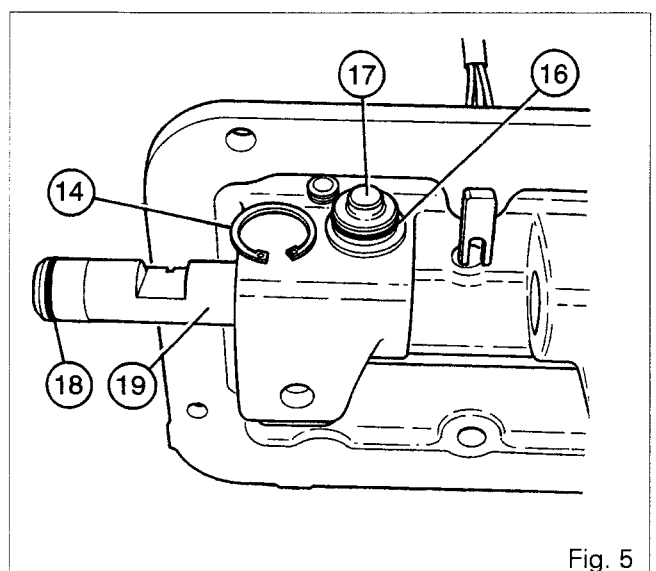

Fig. 5
30. Fit the lubricated seals (18) on the piston (19) and position it in the cover. Remove the plug (17) equipped with the O-ring (16). Position the circlip (14) (Fig. 5).
32. Coat the outside diameter of the seal (37) with Loctite 542 and fit it fully home in the shoulder.
33. Reinstall the cup (41) and the spring (42) on the finger (36). Assemble the finger with the rack (35).
34. Reinstall the spring (39) and the cups (38) and (40).
35. Refit the gearshift control assembly without damaging the seal (37). Fit the bolt (34) after coating it with Loctite 270. Tighten to a torque of 25 to 35 Nm.
36. Refit link (10). Fit the bolt (15) and tighten to a torque of 28 to 43 Nm. Refit the support bracket (6) and the bolts (4), tightened to a torque of 25 to 35 Nm.
37. If it was removed, refit link (20) with a new seal (21) and the retaining ring (22).